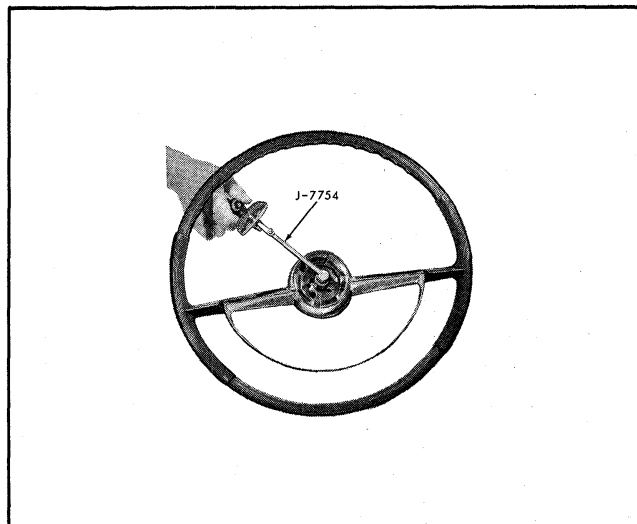

Fig. 9A-5 Checking Steering Gear Adjustment
3. With inch pound torque wrench attached to a 5/8"-12 point socket, measure and record readings taken from the following steering gear positions. See Fig. 9A-5.
NOTE: If the reading for "a" is not in specifications, correct adjuster plug bearing preload as follows: Loosen adjuster plug lock nut, using drift or similar tool, and move flexible coupling (by turning steering wheel) as necessary to permit installation of tool J-7624 on adjuster plug (Fig. 9A-10). Tighten plug as required to obtain proper reading (3-5 lb. in.) and tighten adjuster plug lock nut. If after obtaining proper adjuster plug bearing preload in "a" and the torque reading in "b" is not within specification, then DO NOT remove gear assembly to refit rack-piston balls unless a complaint of loose steering is received. Upon such a complaint, a thrust adjustment ("a") and over center adjustment ("c") should correct the problem if it lies in the steering gear.